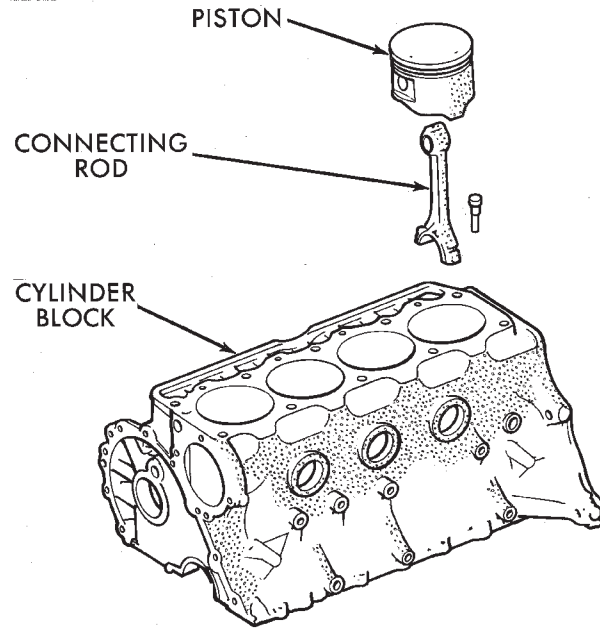

Fig. 62 Removal of Connecting Rod and Piston Assembly
- (11) Have an assistant push the piston and connecting rod assemblies up and through the top of the cylinder bores (Fig. 62).